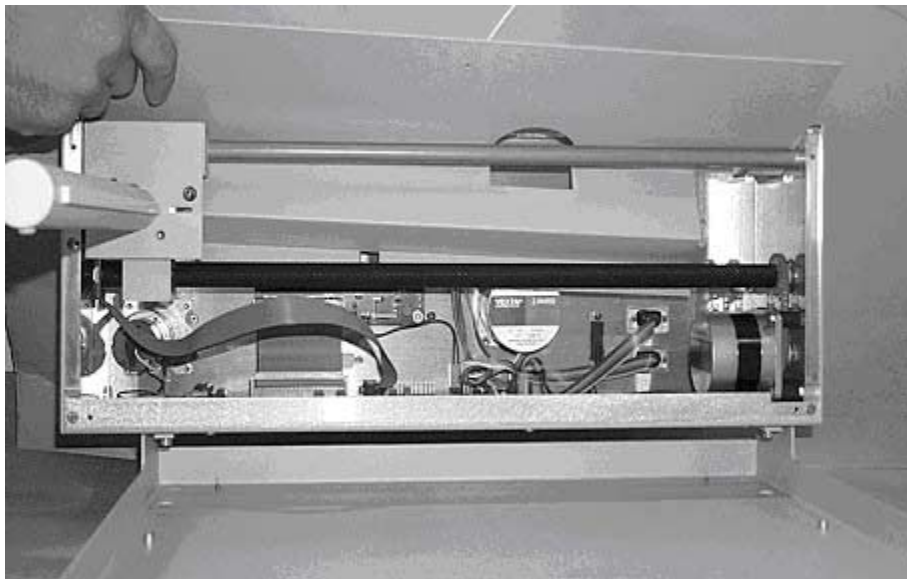

**Figure 1-8.** View of ASX-510 Auto Sampler with the front cover being removed.
6. The front cover can be removed by lifting it slightly and pulling forward. See Figure 1-8.